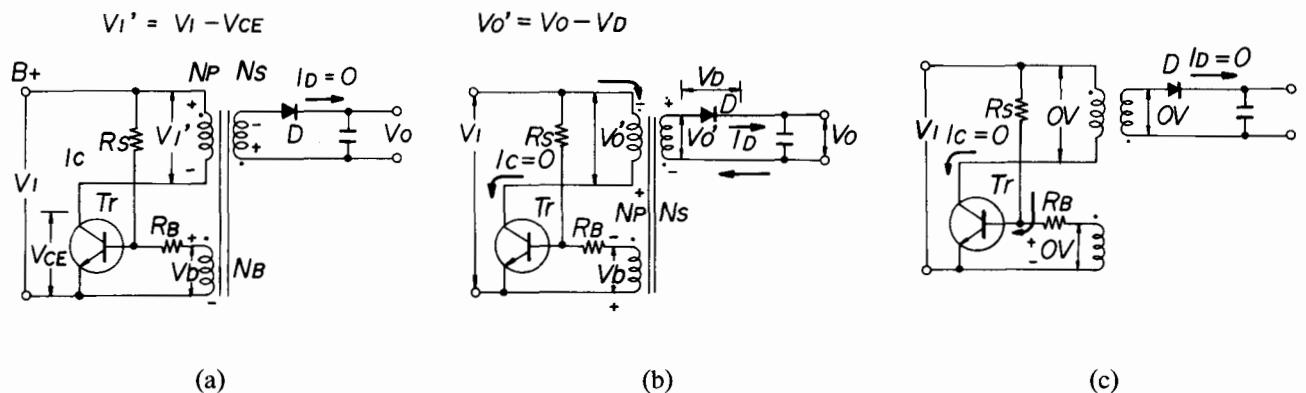

Figure 4-47. R.C.C (Ringing Choke Converter)
This is a one transistor self-excited DC/DC converter, which is called R.C.C. (Ringing Choke Converter). Figure 4-47 shows the principle of the circuit.
- Block ⑤ The Block operates like a Boot-up register Rs in Figure 4-47. The Block is made up of Boot-up circuit, output voltage controller and shut-down circuit, and the block controls $TR508$ ⑥.
- Block ⑥ This switching transistor operates like a transistor in Figure 4-47.
- Block ⑦ This transformer creates +12V, -12V and -15V output voltages.